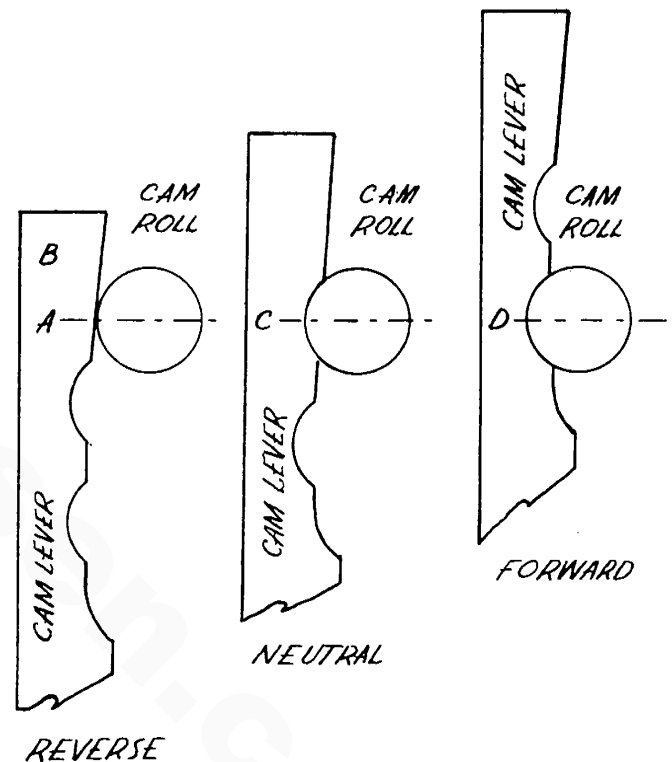

Fig. 72 Reverse Gear - Cam Adjustment - Joes Model
(3) Pull operating lever toward reverse position until cam roll rests on cam at point (A), Fig. 72.
(4) Tighten adjusting nut until drum will not revolve with the lever in reverse position and the engine at full power.
Do not adjust so tightly that the cam roll cannot ride out of the notch at point (C), Fig. 72.